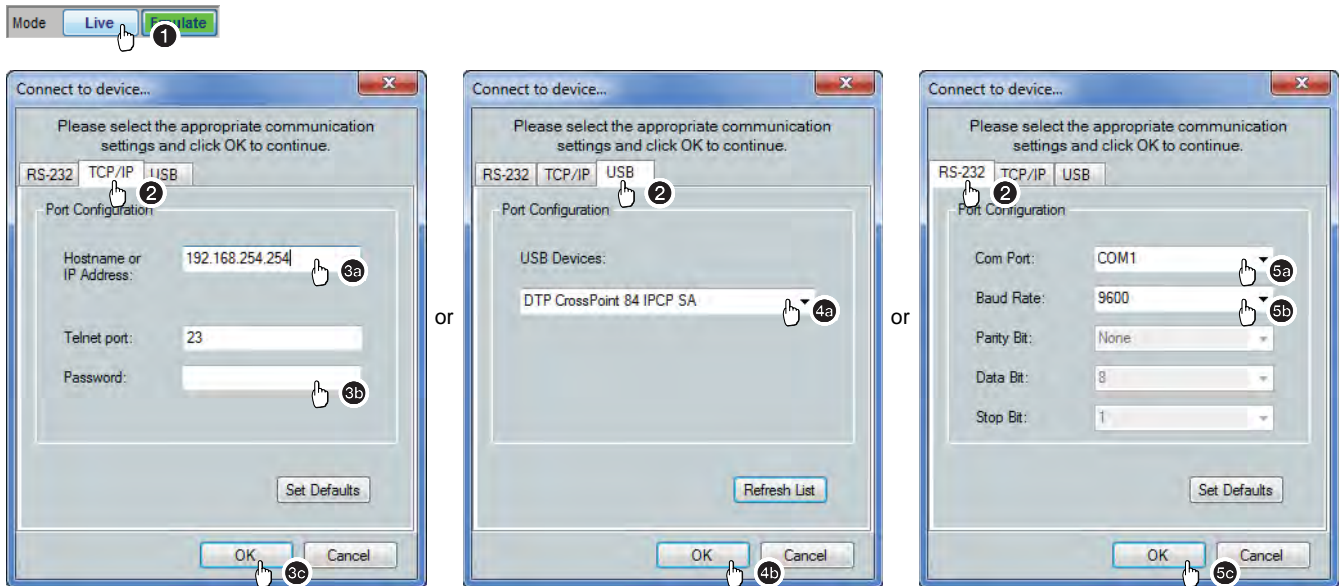

Figure 58. Selecting Live Mode
1. Click the **Mode Live** button (see figure 58). The Connect to device window appears, with either the TCP/IP tab, the USB tab, or RS-232 tab active.